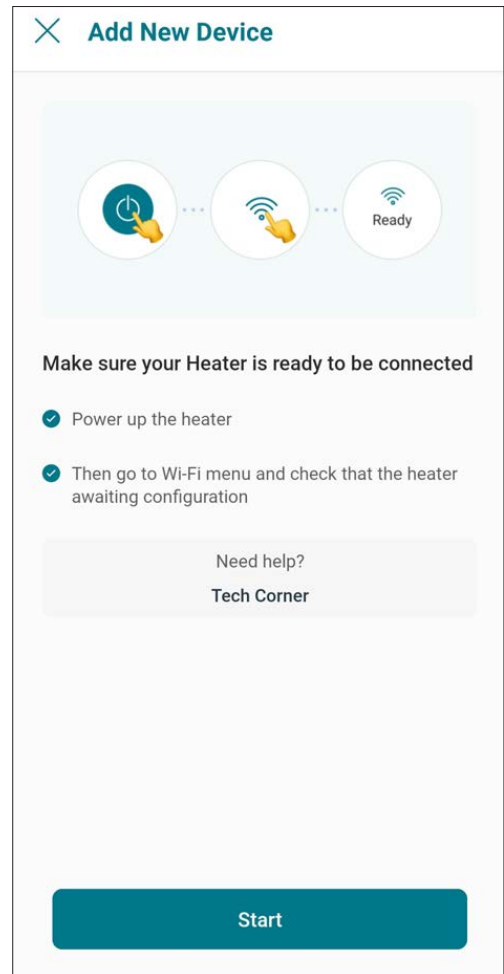

Figure 74. Check your Device
2. "Check your Device" screen will appear. Ensure to have Crosswind V heater powered and Wi-Fi signal available in the area, then press "Start" button. See Figure 74.